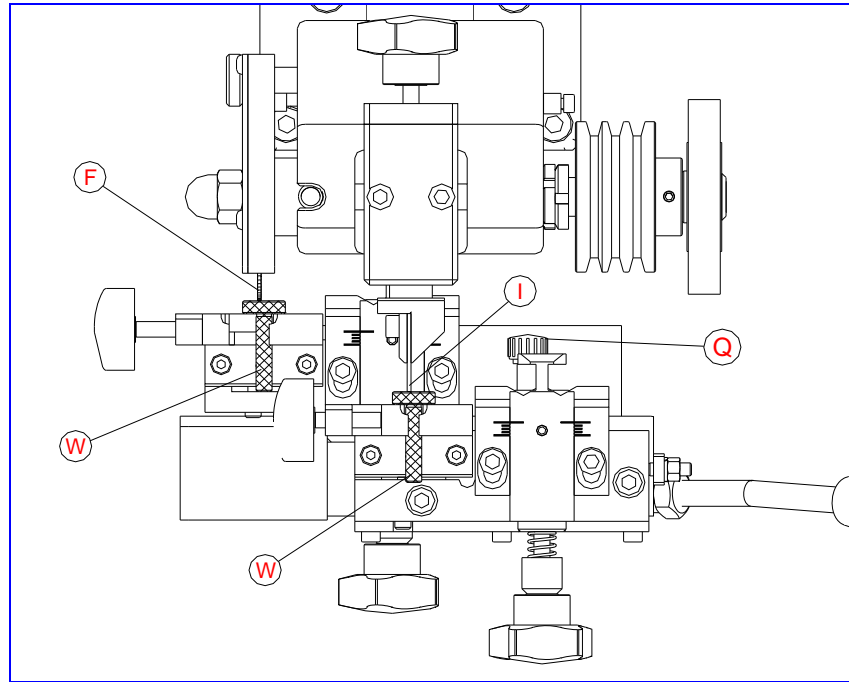

Fig.2
- Repeat the same operation aligning the position of the slide (R2) with the reference point (S) to check that the clamp for pump keys and vertical groove keys is properly adjusted. To do this, use the adjustment rod W as shown in Fig.2